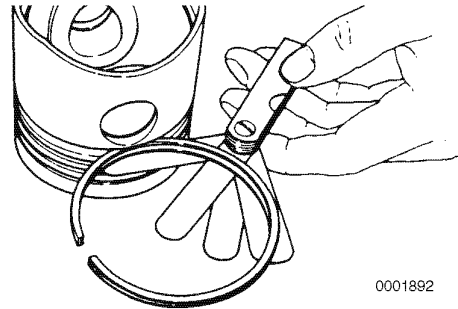

Figure 8-52
9. Place each compression piston ring in the groove as shown (**Figure 8-52**). Use a feeler gauge to measure the clearance between the piston ring and the piston ring land. Record the measurements. See *Piston Ring on page 8-10* for specifications. Replace the piston if not within specification.